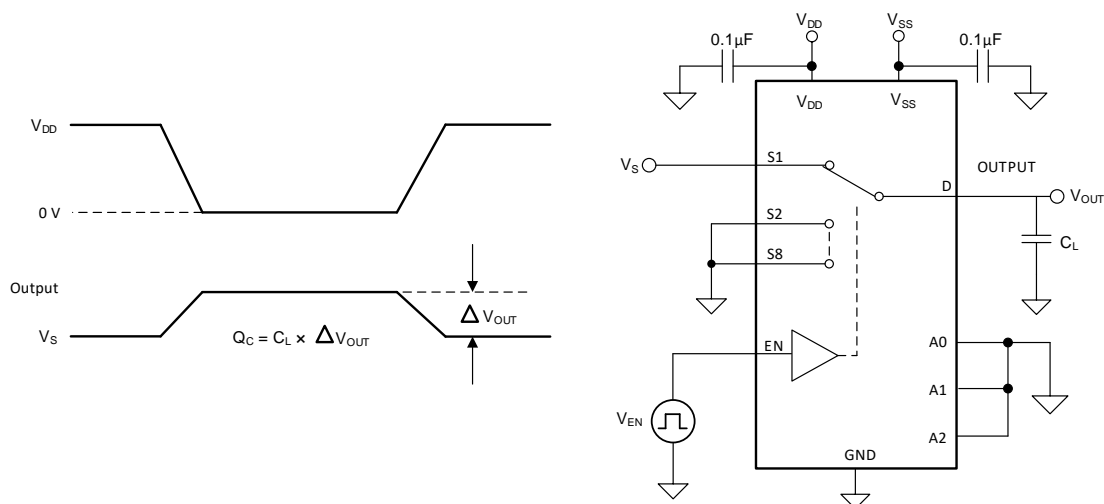

Figure 24. Charge-Injection Measurement Setup
The TMUX1108 has a transmission-gate topology. Any mismatch in capacitance between the NMOS and PMOS transistors results in a charge injected into the drain or source during the falling or rising edge of the gate signal. The amount of charge injected into the source or drain of the device is known as charge injection, and is denoted by the symbol Q_C . Figure 24 shows the setup used to measure charge injection from source (Sx) to drain (D).